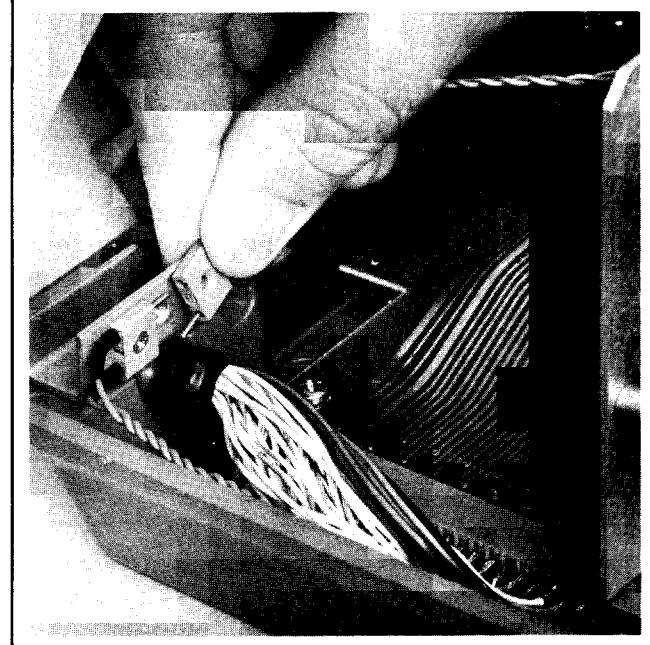

FIGURE 3-5. AUTOGRIP LEAD REMOVAL
- f. X-axis drive system may be reached by removing recording platen as follows: 1) raise hinged top casting as outlined in step e; 2) remove Autogrip leads shown in Figure 3-5; 3) remove four No. 8-32 and two No. 6-32 mounting screws holding platen; 4) place carriage arm at far right of travel; 5) pull up on upper left hand corner of platen and slide platen out to left. Be sure to replace Autogrip leads when replacing platen.